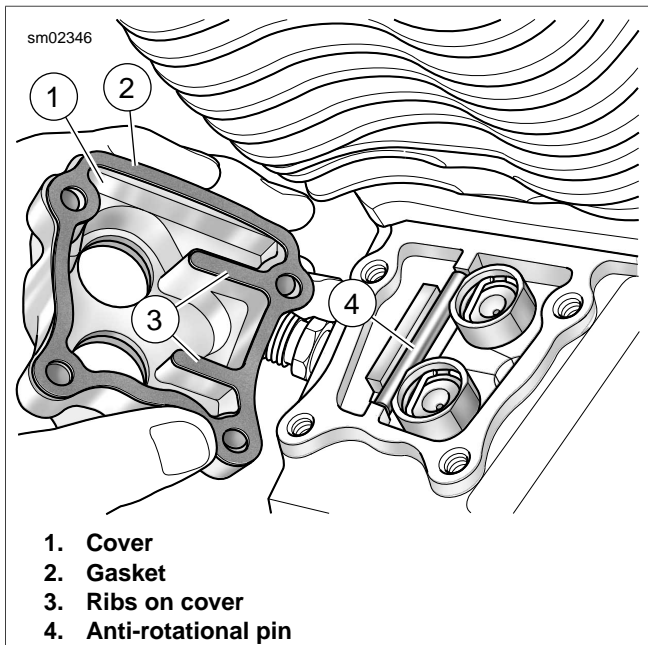

Figure 3-40. Installing Lifters
2. See Figure 3-40. Place the anti-rotational pin (4) on the machined flat between the blocks cast into the crankcase.
3. Install a **new** lifter cover gasket (2) aligning the holes in the gasket with those in the cover (1).